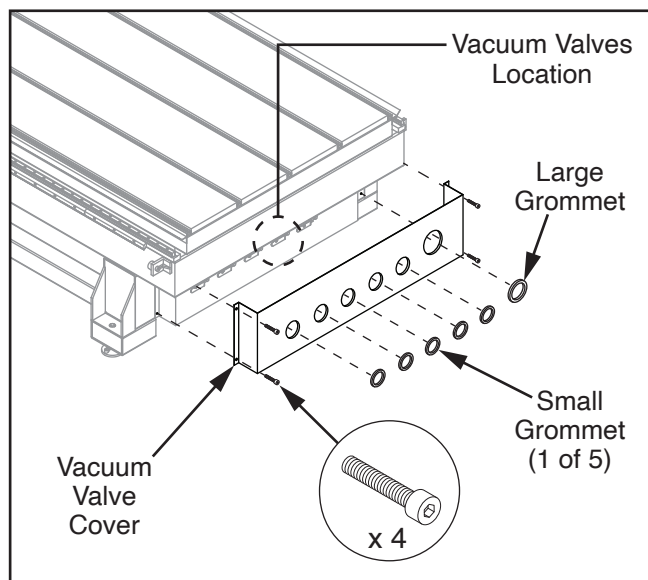

Figure 45. Installing vacuum valve cover and grommets.
17. Install vacuum valve cover over vacuum valves using (4) M6-1 x 8 cap screws pre-installed on router base (see **Figure 45**).
18. Install (5) small grommets and (1) large grommet in matching holes in vacuum valve cover (see **Figure 45**).